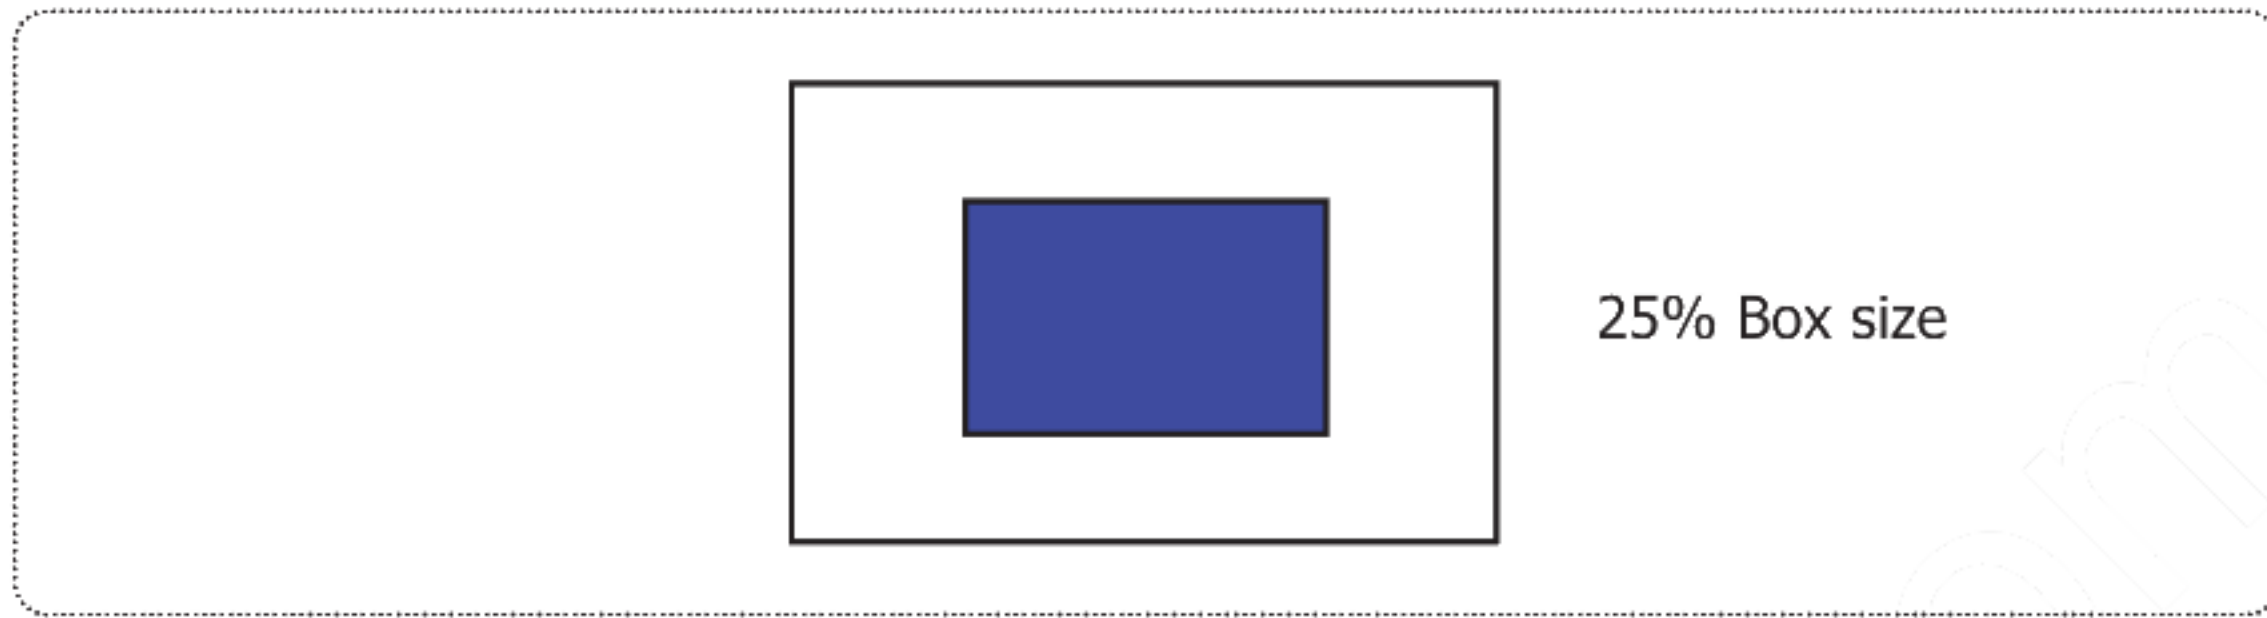

FIG.9 Color Shift Test Pattern
4. Color shift is the angle at which the average color difference for all Macbeth is lower than 0.02. For more information see FIG.9 **(By EZ Contrast)**